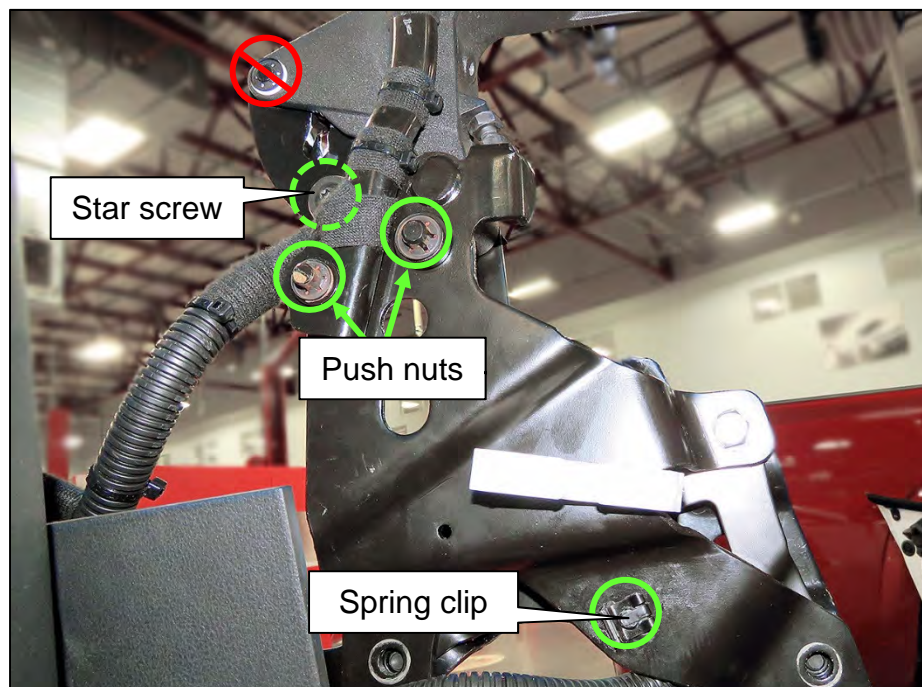

Figure 235
249. Remove two (2) push nuts and discard (Figure 235).
250. Remove one (1) spring clip (Figure 235).
251. Remove one (1) star screw (Hidden in Figure 235 behind harness).